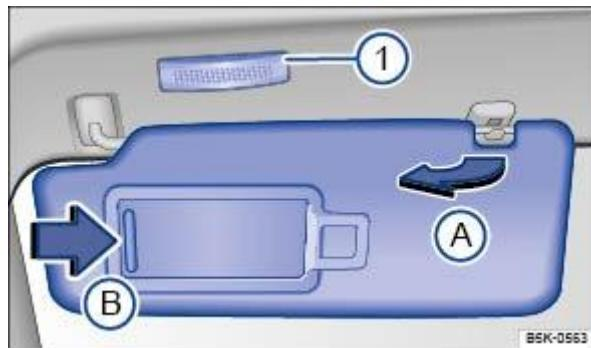

Fig. 89 In the front headliner: sun visor.
Pulled out of the bracket and swung over towards the door ⇒ Fig. 89 A.
When you open the cover ⇒ Fig. 89 B, the lamp ⇒ Fig. 89 ① lights up.